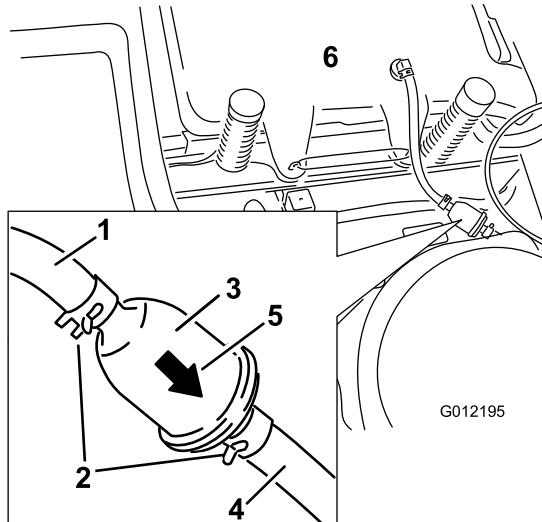

Figure 34
4. Squeeze the ends of the hose clamps together and slide them away from the filter (Figure 34).
6. Install a new filter with the flow direction arrow coming from the fuel tank and pointing to the engine. Move the hose clamps close to the filter (Figure 34) to secure it in place.